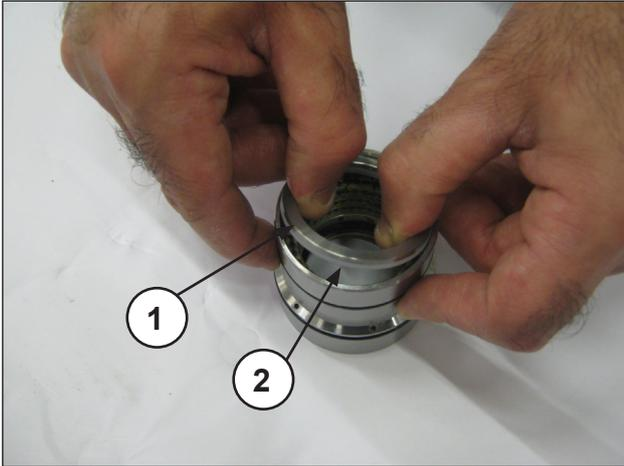
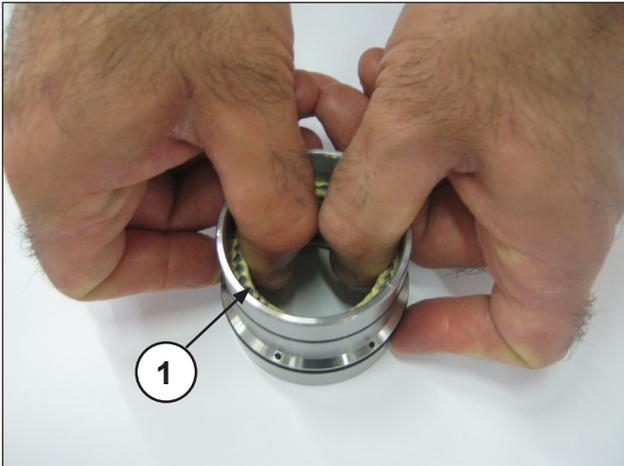

Fig. 31
Fig. 32
Separate the seal support from the liner, remove the spring ring and scraper ring (pos. ①②, Fig. 31) to access the pressure seals (pos. ①, Fig. 32).